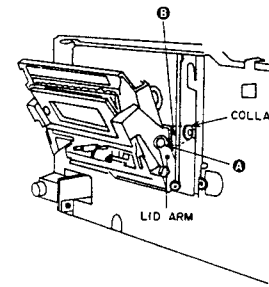

Fig. 3-1
- 2) While pulling the **A** section of the LID ARM outward, press inward on the **B** section of the LID CASE to disengage the LID CASE from the collar and LID ARM (Refer to Fig. 3-1, 3-2)